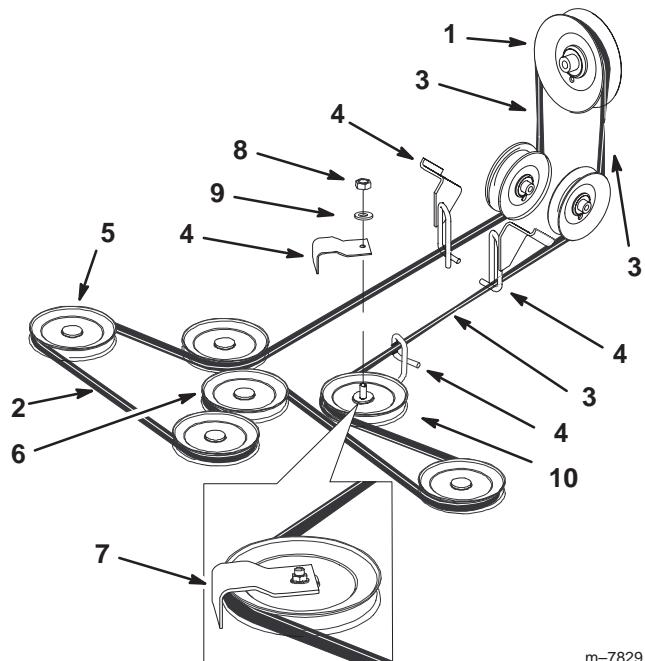

Figure 73
5. Remove the nut, washer and belt guide from the rear leftside pulley (Fig. 73).
6. Remove the mower belt from the belt guides and remove the belt (Fig. 73).
7. Install the new mower belt around the mower spindle pulleys, mower idler pulley, into the belt guides, into rear idler arm assembly, and the clutch (Fig. 73).
8. Install the belt guide with a washer and nut onto the rear leftside pulley (Fig. 73).
**Important** Check the amount of twist in the belt between the pulleys. Make sure it is only what is specified in Figure 73.